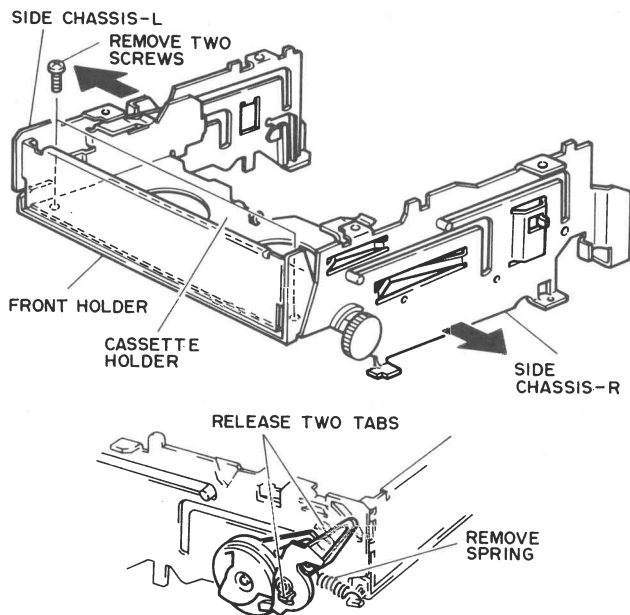

Fig. 15 Front Holder/Cassette Holder Removal
5. Remove the spring and release the two (2) tabs holding the door drive arm (Fig. 15).
6. Remove the two (2) screws holding the front holder (Fig. 15).
7. Pull the left and right side chassis's apart and remove the cassette holder (Fig. 15).